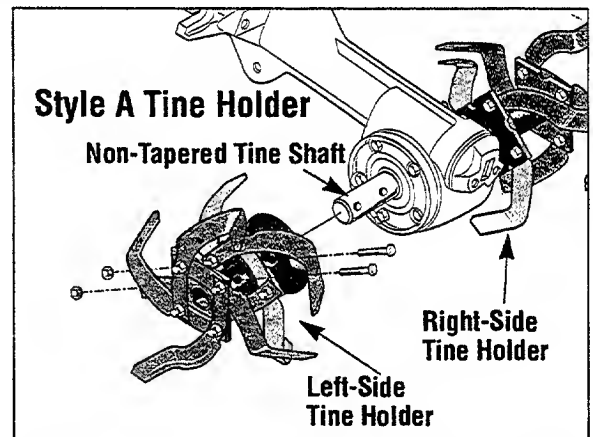

Figure 5-33A: Style “A” Tine Holders—Left and right-side tine holders are secured to the tine shaft with two bolts and two nuts.
The 16 Bolo Tines are mounted eight per side on left-side and right-side tine holders – on either Style A or Style B holders (refer to Figures 5-33A and 5-33B to see which style tine holder you have). Style “A” tine holders are secured to the tine shaft with two bolts and two nuts. Style “B” tine holders are secured with a single end bolt to the left and right sides of the tine shaft. Here’s how to replace the tines and holders as assemblies.
3. With Style A holders, remove the two bolts and nuts securing each holder (Fig. 5-33A). With Style B holders, remove the single bolt (along with the washers) from